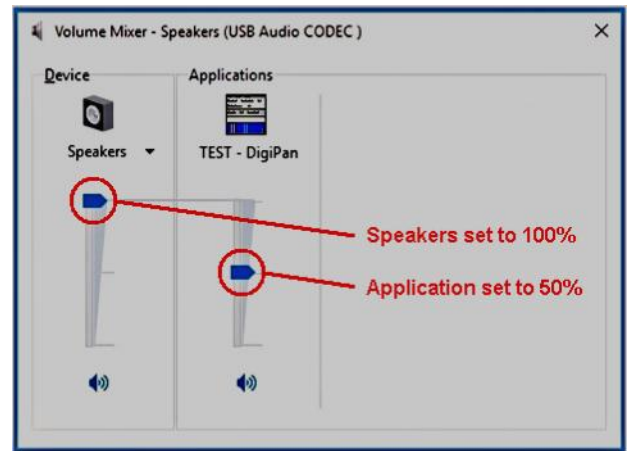

Figure 6 ◊ Volume Mixer adjustment
The Signalink USB attaches to the radio through the "Radio" connector located on the rear of the unit. This connector brings all of the required radio lines into the Signalink USB so that each line can be connected to the appropriate matching line inside the Signalink. The Signalink USB uses the radio's Ground, PTT, Speaker and Mic lines (or the equivalent signals if using a Data or Accy Port). Because the location of these signals on the radio connector varies from radio to radio, we have provided a "Programming Socket" inside the Signalink. See "JP1" in Figure 6 4 (page 8) for the location of this socket. The JP1 Programming Socket provides a convenient way to route the various signals to the correct pins on the radio connector. This is accomplished with either an optional jumper module, or the supplied "press-in" jumper wires. In either case, no soldering is required.
- You should now see a volume mixer window similar to the one shown below in Figure 6. Note that the Applications volume control will display the name of the communication program that you are using or something similar (we've used the DigiPan program for our example). If you do not see the Applications volume control, then you will need to close this window, put your program in Transmit and then re-open the window. If you still do not see the Applications volume control, then double-check that your communication program is properly configured and actually in Transmit (see ◊Communication Program Setup◊ above).